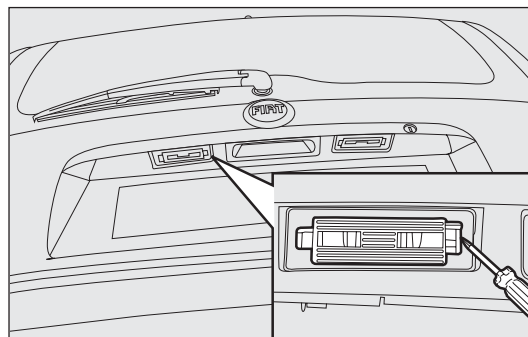
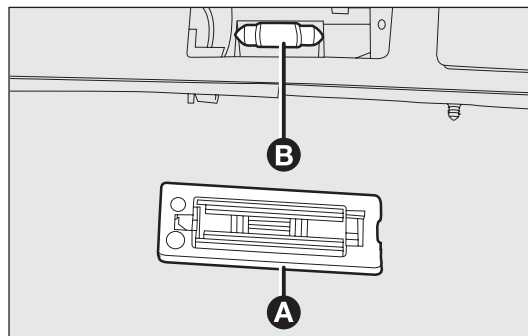

fig. 155
fig. 156
- ☐ use a screwdriver to remove the retaining spring as shown fig. 155 and remove the lens A-fig. 156; take out the bulb B from the bulb-holder;